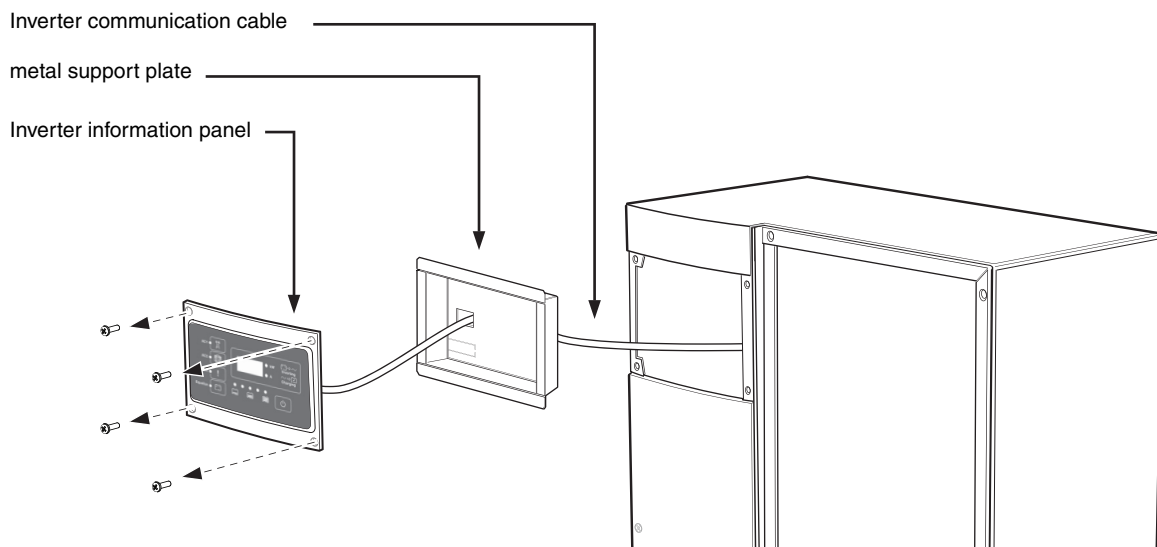

Figure 5-2 Inverter information panel removal
2. Remove the four screws from the inverter information panel, as shown in Figure 5-2.